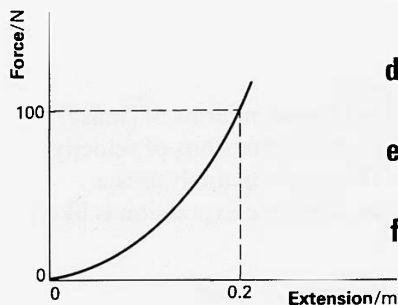

Figure A90
- f** In fact, however, for rubber the proportionality assumption made above is wrong. The graph of force and extension will be as in figure A90. If the force at 20 cm is still 100 newtons, is the energy stored more, or less than that given by the answer to **e**? Explain your reasoning.